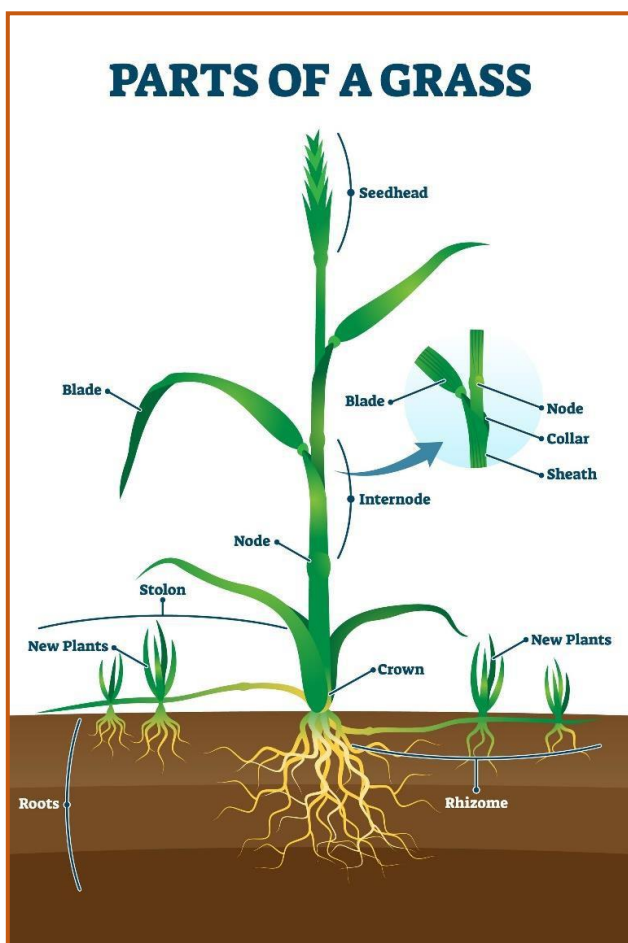

Fig 2
**Creeping perennials** can spread vegetatively from stolons (horizontal stems running on the soil surface usually rooting at the joints) by rhizomes (underground horizontal stems modified for food storage and asexual reproduction) (Fig 2), or by seed. Creeping perennials usually occur as a patch that continues to enlarge each year.